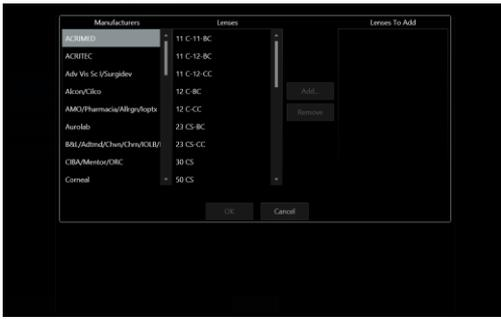

Fig. 2
- * The preferred lenses (IOL’s) can be selected by selecting the “Lenses” tab on the user setup screen. Pressing “ADD” will display a window showing Lens Manufacturers on the left and lenses produced by that manufacturer in the center of the display. Once a lens is selected, the “ADD” key will become active and selecting this key will add the desired lens to the users preferred list. (see Fig. 2)